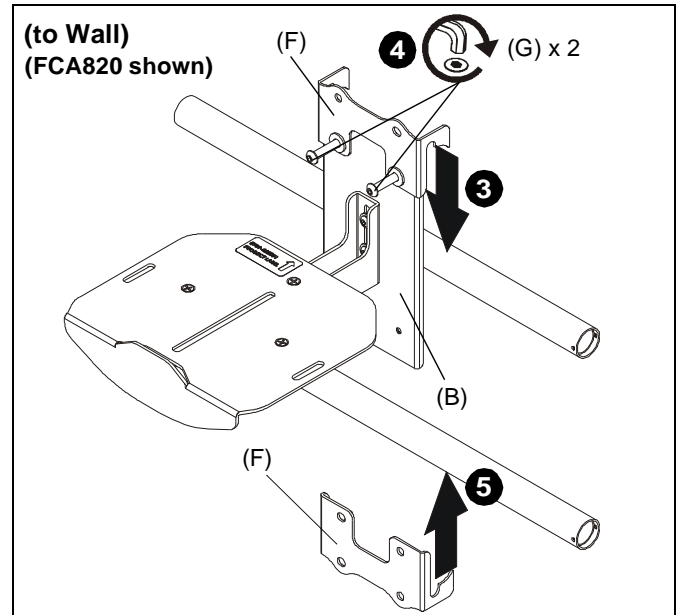

Figure 7
3. Place center holder (F) on top of wall mount rail. (See Figure 7)
4. Tighten two screws (G) holding center holder (F) to center plate (B). (See Figure 7)
5. Place second center holder (F) underneath wall mount rail so that mounting holes are aligned. (See Figure 7)